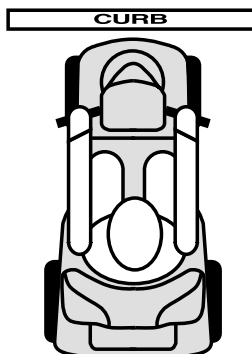

FIGURE 3. CORRECT CURB APPROACH
**WARNING! Be sure your scooter is traveling perpendicular to any curb you may be required to ascend or descend. See figures 3 and 3A.**